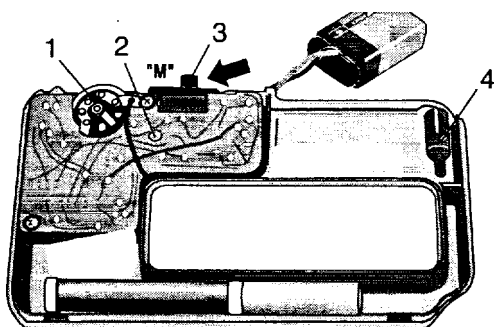

Fig. 3
2. Set selector switch 3 (Fig. 3) to setting "M".
3. Completely rotate the adjuster wheel (Fig. 3) to the limit stop and then in the reverse direction by $\frac{1}{2}$ the number of rotations.
4. Adjust the potentiometer (2) using a small screwdriver 4, (supplied in housing) so that the display illuminates.
5. For testing purposes, slightly rotate the adjuster wheel (1) in the reverse direction. The LED must extinguish.